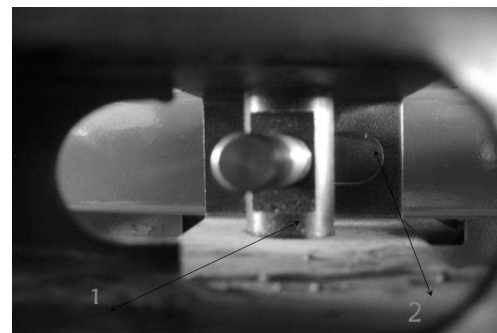

Fig. 10
- Position the bead breaking arm shaft bushing into the bead breaking support plate on the body (FIG 9-1)to align the hole and install the bead breaking bolt (FIG 9-2)and assemble the nut to lock (FIG 8-4). Insert the piston rod (FIG10-2) through the hole of the bead breaking slide bushing (FIG10-1). The surface of the slide bushing should be outwards (FIG 10). Assemble the removed nut (FIG 8-1) into the front end of the piston rod. The nut will be assembled. The distance from the edge of the bead breaking blade to the bead breaking rubber is 30~40mm (FIG11). Hang the spring. (FIG9-3).